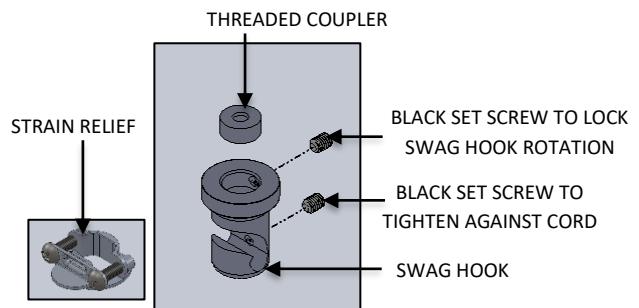

FIG. 6 RED BAG CONTENTS
- a. STRAIN RELIEF (as shown in FIG. 6)
- b. SWAG HOOK (as shown in FIG. 6)
- c. THREADED COUPLER (as shown in FIG. 6)
- d. BLACK SET SCREW TO LOCK SWAG HOOK ROTATION (as shown in FIG. 6)
- e. BLACK SET SCREW TO TIGHTEN AGAINST CORD (as shown in FIG. 6)